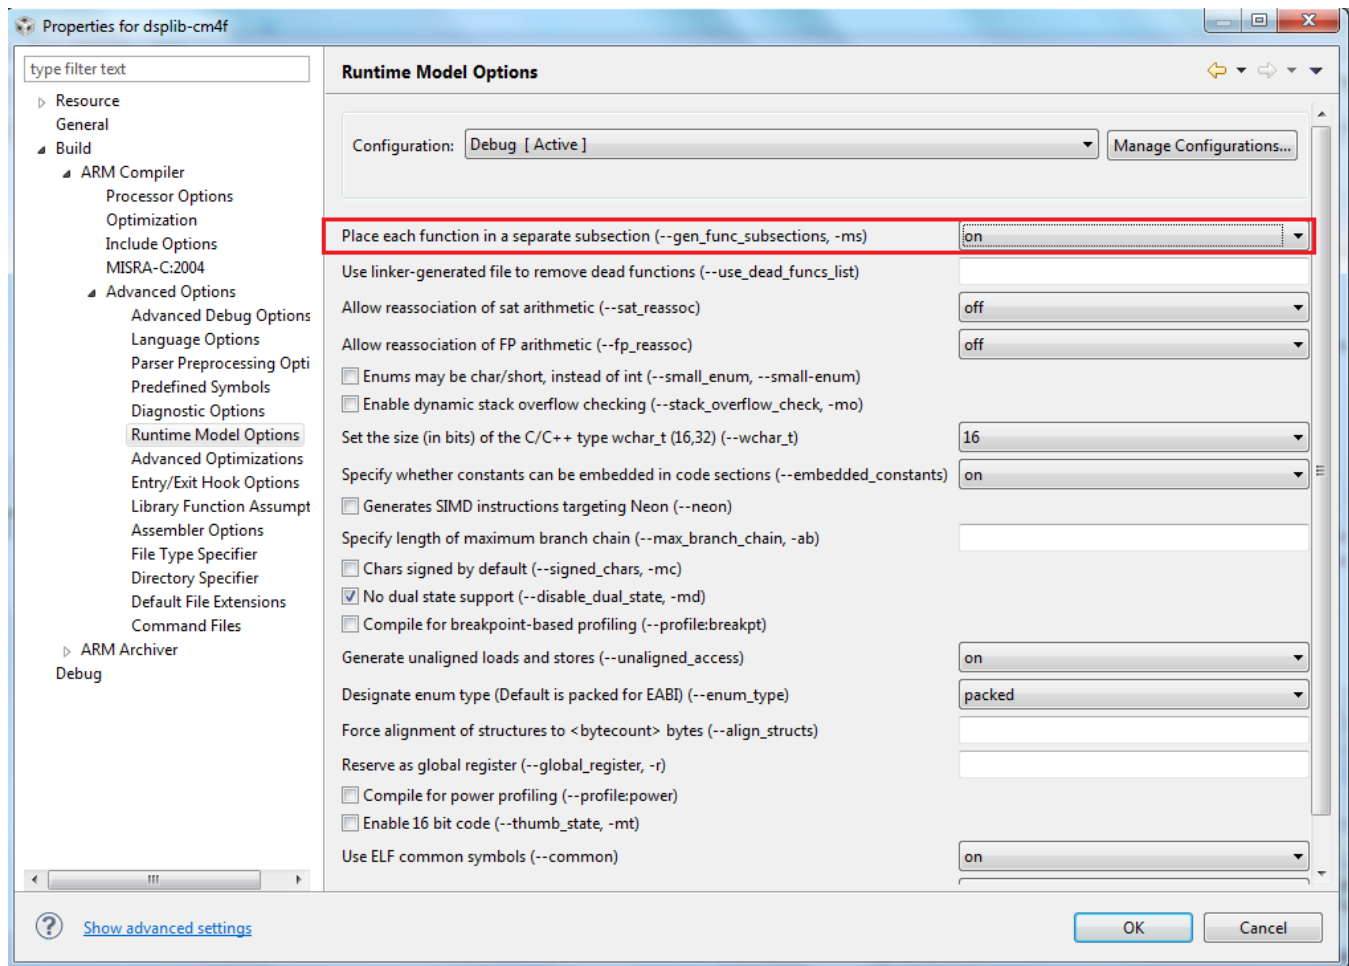

Figure 11. The Proper Runtime Model Options for Compiling the DSP\_Lib Source Code
10. Select the *on* option from the *Place each function in a separate subsection (--gen\_func\_subsections, -ms)* drop-down menu in the Runtime Model Options panel (see Figure 11).